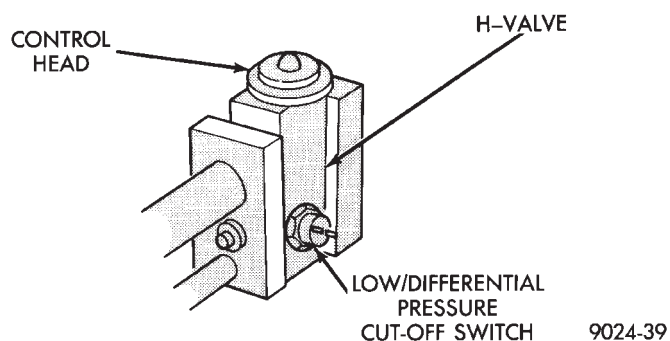

Fig. 6 Expansion Valve
(8) If suction side low pressure is within specified range, freeze the expansion valve control head (Fig. 6) for 30 seconds. Use a super cold substance (liquid CO₂). **Do not spray R-12 Refrigerant on the expansion valve for this test.** Suction side low pressure should drop to -50 kPa (-15 in. Hg) If not, replace expansion valve.
(9) Allow expansion valve to thaw. The low pressure gauge reading should stabilize at 140 kPa to 240 kPa (20 psi to 30 psi). If not, replace expansion valve.